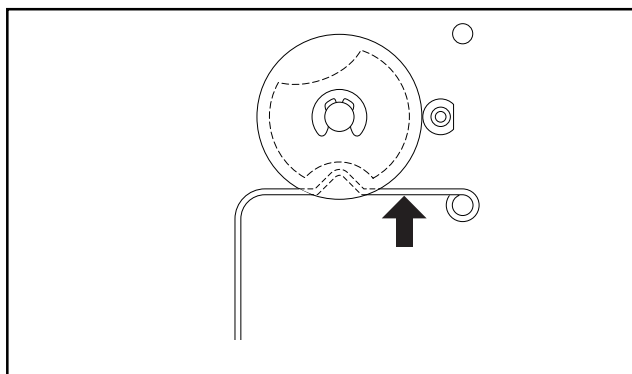

Fig. 46
**Adjustment:** The V-bend in the S-wire must be as close as possible, but not pressing on the selector. Therefore, the S-wire should be bent by the necessary amount, such that when S is selected on the selector symbol plate (and mechanism is cocked), the shutters open immediately. Fig. 46.